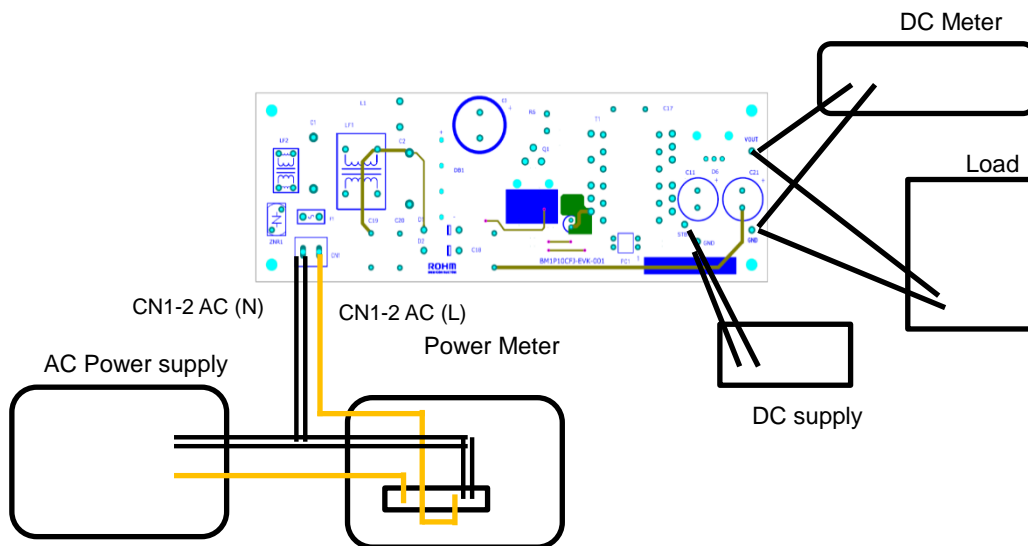

Figure 3. Diagram of How to Connect
- (1) Connect a measuring instrument to Figure 3 reference as each power supply OFF.
- (2) Set the AC power supply to 90 Vac to 264 Vac, and power supply ON.
- (3) In the case of electronic load, load sets it between 0 A to 2A, and power supply ON.
- (4) The DC voltmeter of the output connects with directly outputting it, and confirm the voltage.
- (5) Connect STBY pin and GND pin to DC power supply. and apply +5V. The output voltage is 24V.